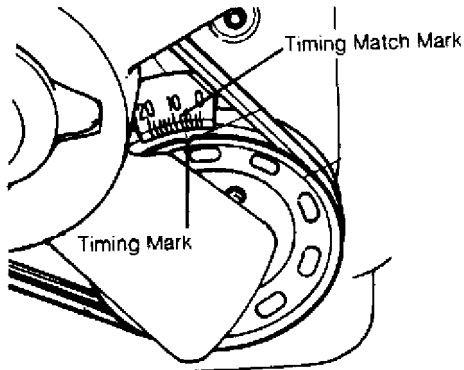

Fig. 3: Identifying Ignition Timing Mark (Typical)
(1) - See Fig. 3 for timing mark location.